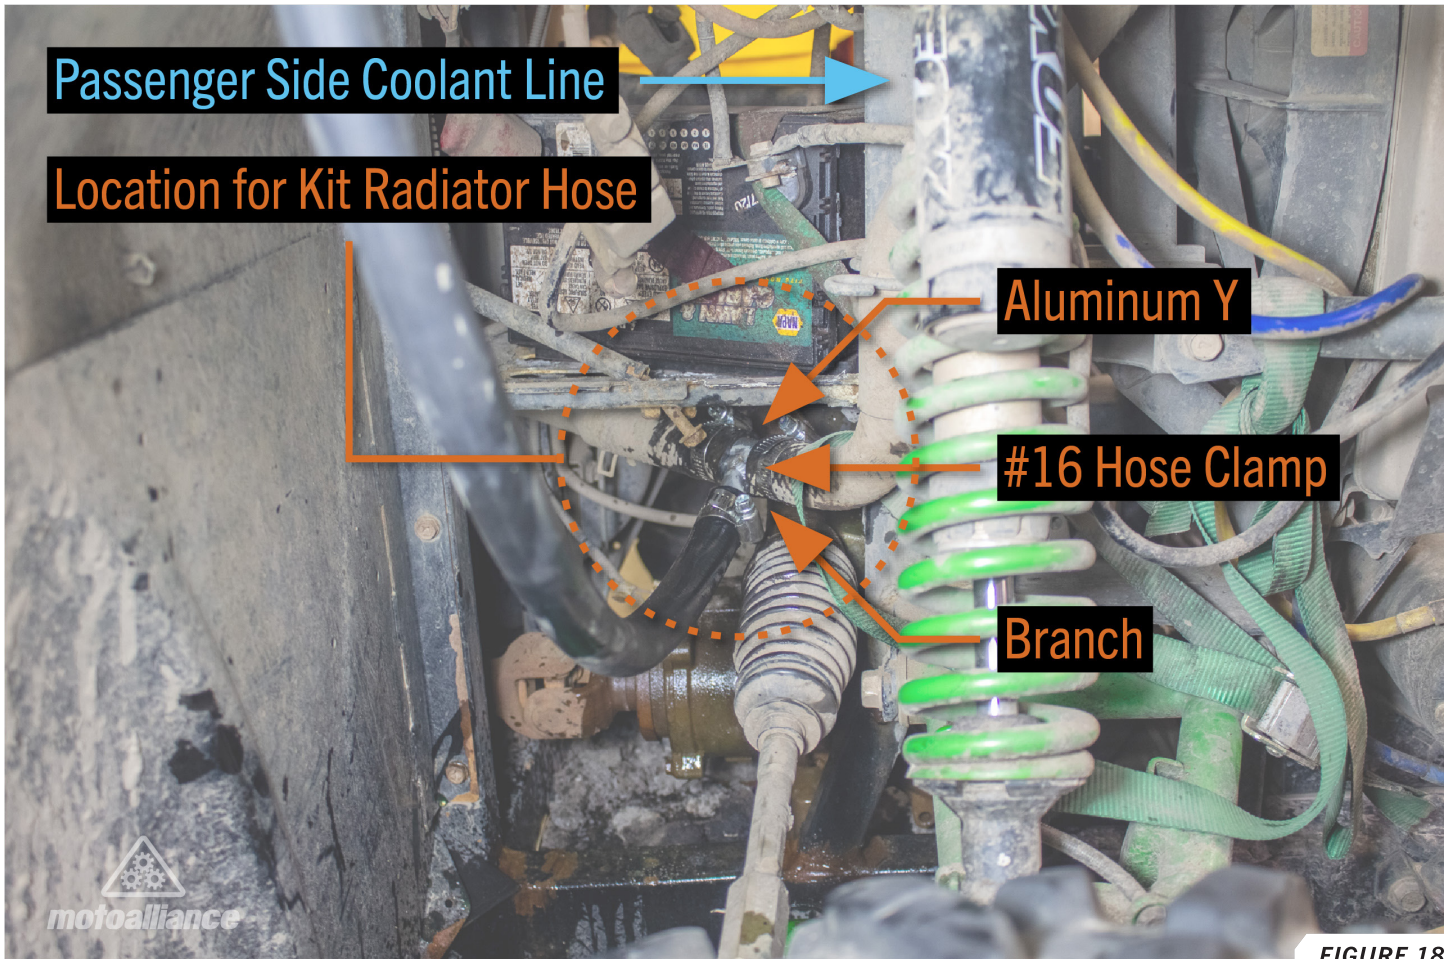

FIGURE 18
30. Locate the passenger side coolant line as shown in **FIGURE 18**.
33. Route one length of hose to the location marked in **FIGURE 18**.
39. Slide one of the #16 hose clamps onto each side of the vehicle radiator hose, connect the aluminum Y, and secure with the #16 hose clamps. The branch should be pointing down. **FIGURE 18**